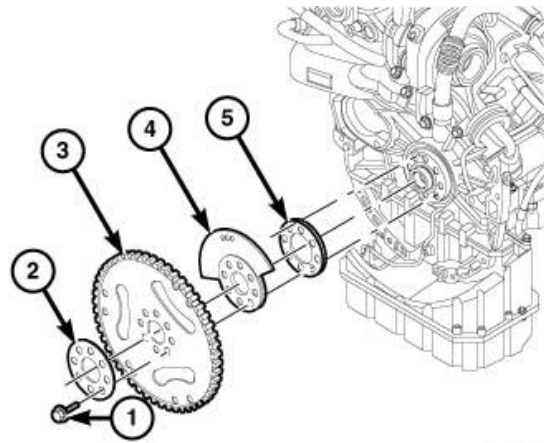

Figure 27 – Tone Wheel Removal
60. Remove the bolts (1) and flex plate (3) (Figure 27).
61. Remove the counter weight (4) and tone wheel (5) (Figure 27).
1. Install the **NEW** tone wheel 68493358AA (5) (Figure 27).
2. Install the counter weight (4) and make sure the dowel pin side is inserted into the crankshaft hole for proper counter weight timing. A vibration can occur if the counter weight is installed incorrectly (Figure 27).
4. Lubricate and install the backing plate (2) and tighten the **NEW** bolts 68161231AA (1) finger tight (Figure 27).